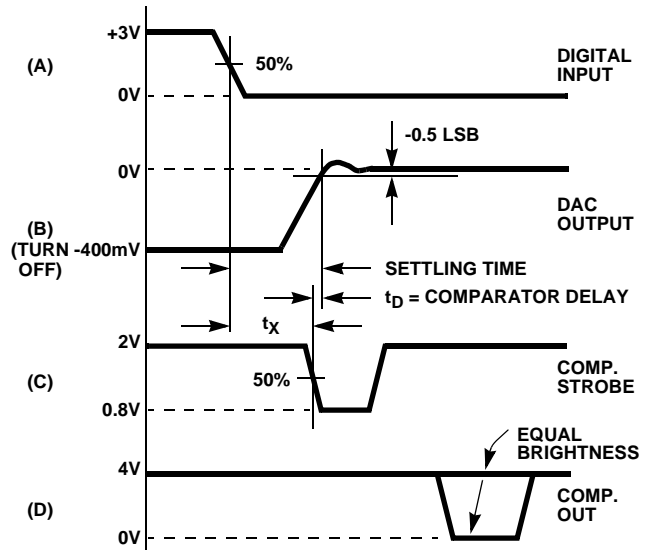

FIGURE 3B.
As shown in Figure 3B, settling time equals t_x plus the comparator delay (t_D = 15ns). To measure t_x:
- Adjust the V_{LSB} supply for 50% triggering at COMPARATOR OUT. This is indicated by traces of equal brightness on the oscilloscope display as shown in Figure 3B. Note DVM reading.
- Switch the LSB to Pulse (P).
- Measure t_x from scope as shown in Figure 3B. Settling time equals t_x + t_D, i.e., t_x + 15ns.